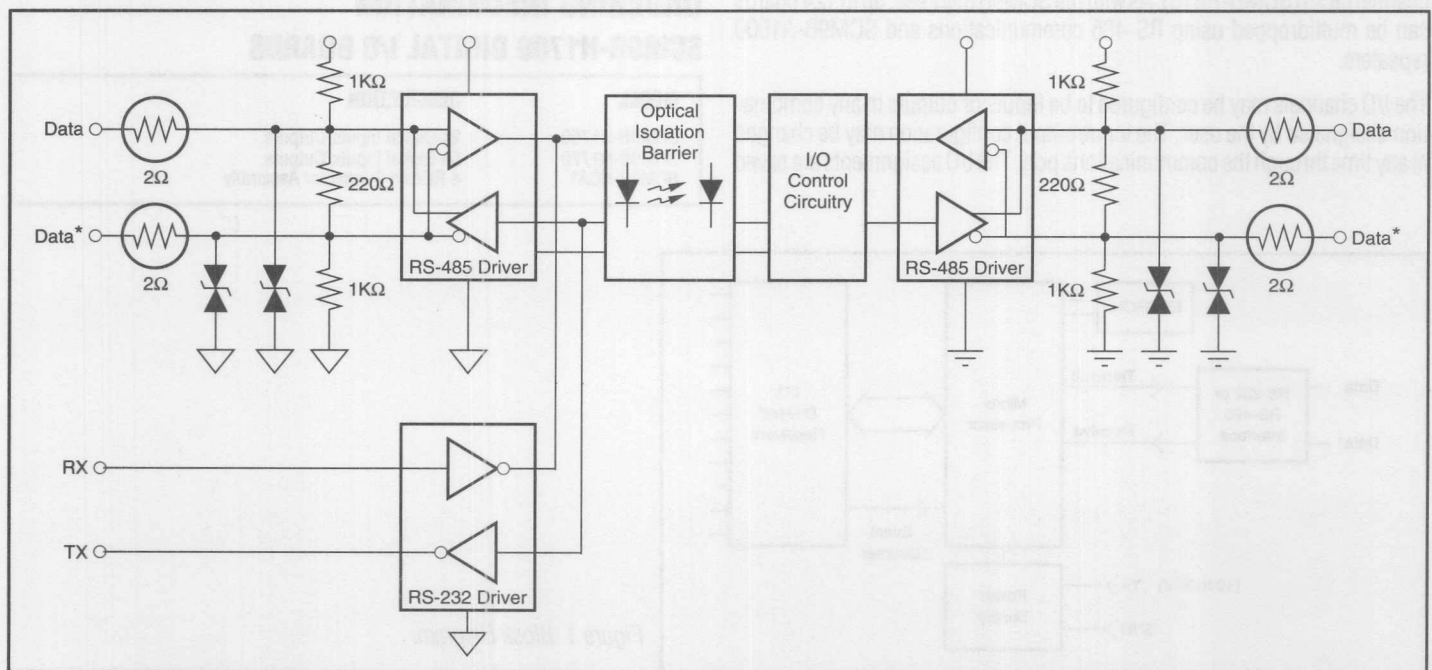

Figure 1. Block Diagram.
The A1000 and A2000 automatically control bus direction in hardware without the need of handshaking signals from the host computer. As shown in Figure 1, the I/O control circuitry monitors the RS-232 receive (RX) input and both RS-485 drivers. The RS-485 drivers in the converters are always in the receive mode until either RS-485 driver, or RS-232 input, receives the start of a character to be retransmitted. When the start of a character is detected, the I/O circuitry enables the proper RS-485 driver for one character time at the selected baud rate. When the character time expires the drivers return to receive mode. Since the converters are bidirectional it does not matter which driver receives the character.